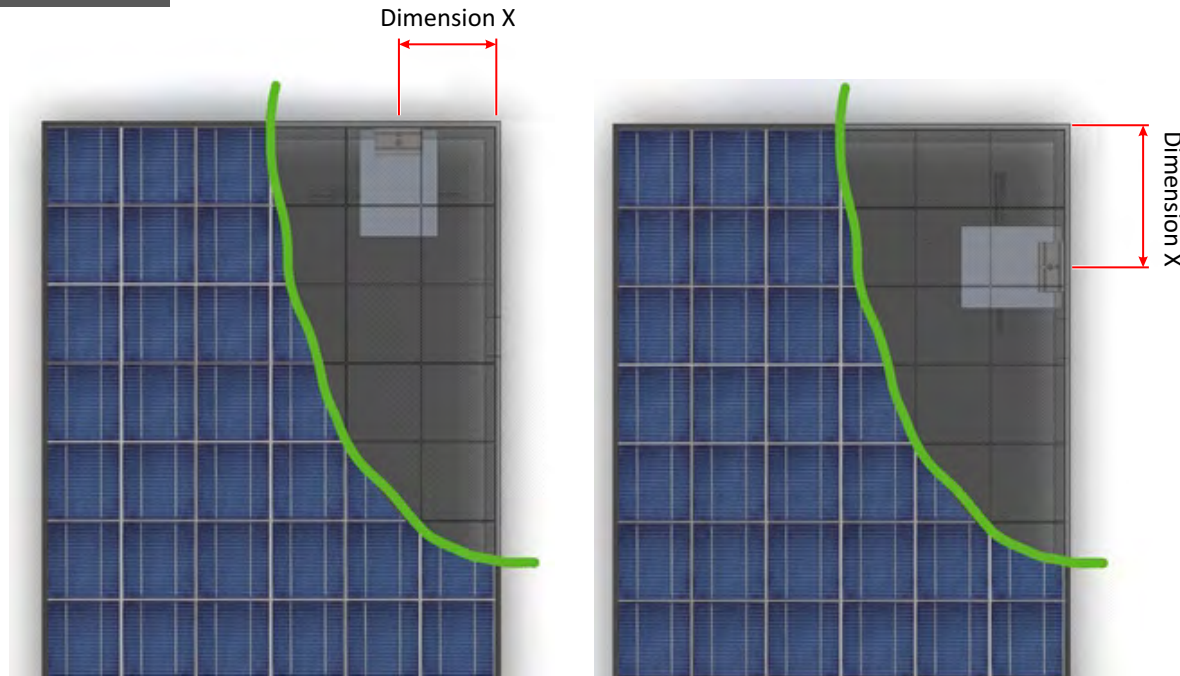

Figure 1: Dimension "X" ≤ 12 inches
- The center of the bracket (installation bolt) must be placed within 12 in. of the corner of the PV module, as shown in Figure 1 (power accessory unit may be installed on short edge of PV module as well as on long edge as shown)